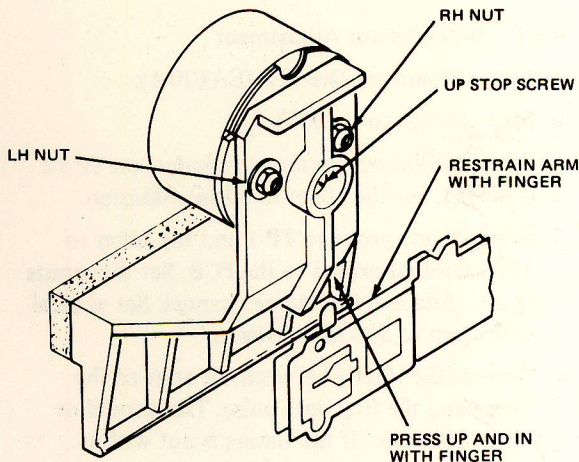

FIGURE 6 HEAD LOAD ACTUATOR ADJUSTMENT
4.6.2 Head Load Actuator Adjustment (Refer to Figures 6, 7 and 8)
- If there is contact between the head and the diskette, or if there is insufficient clearance, rotate the bail upstop adjustment screw counter clockwise to obtain the specified clearance. Recheck as in Figure 6. Under no circumstances should the diskette touch the side 1 head.